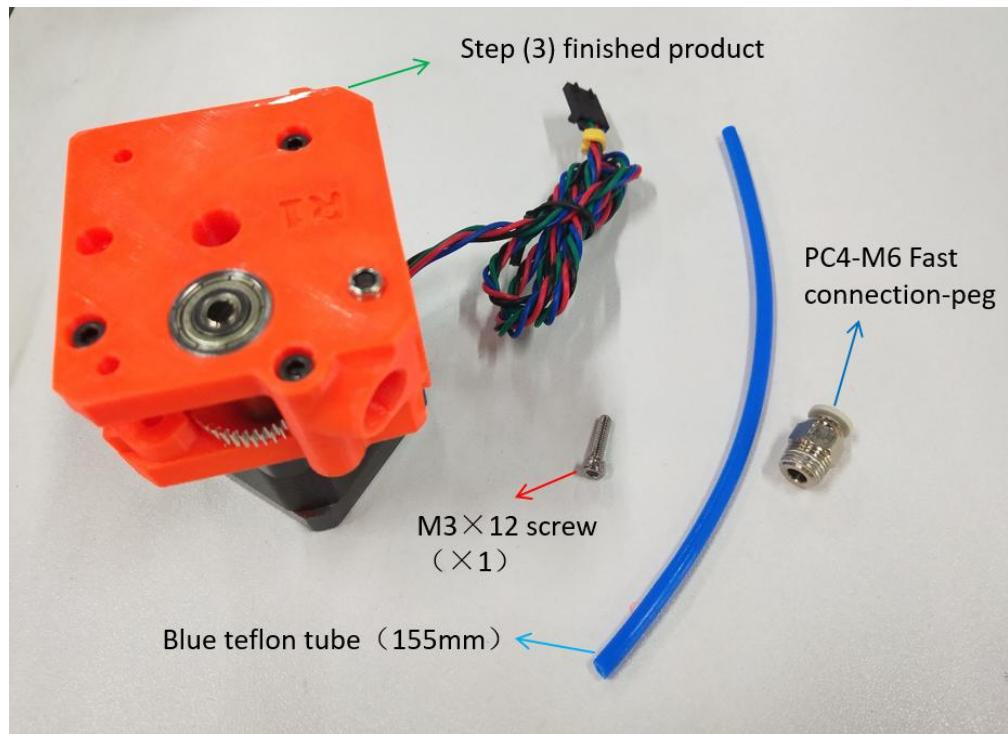

Figure 2.4.1
**Step 2-4-1:** As shown in Figure 2.4.1, prepare the materials and check whether the quantity of materials is correct, and prepare for the next installation.